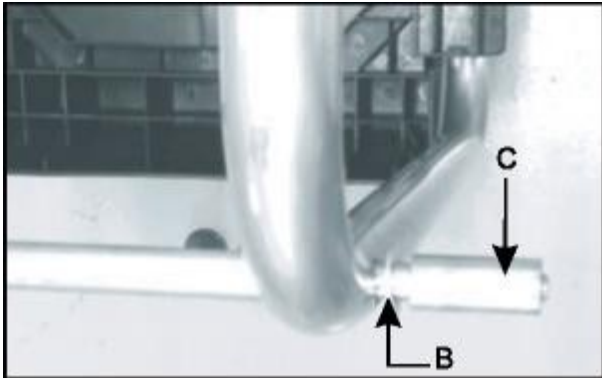

Fig. 1B
- Put the supplied washer (B) and sleeve (C) onto the wheel axle. (Fig. 1B)